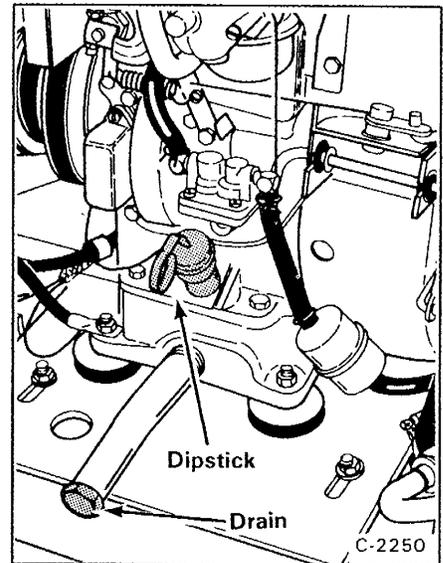
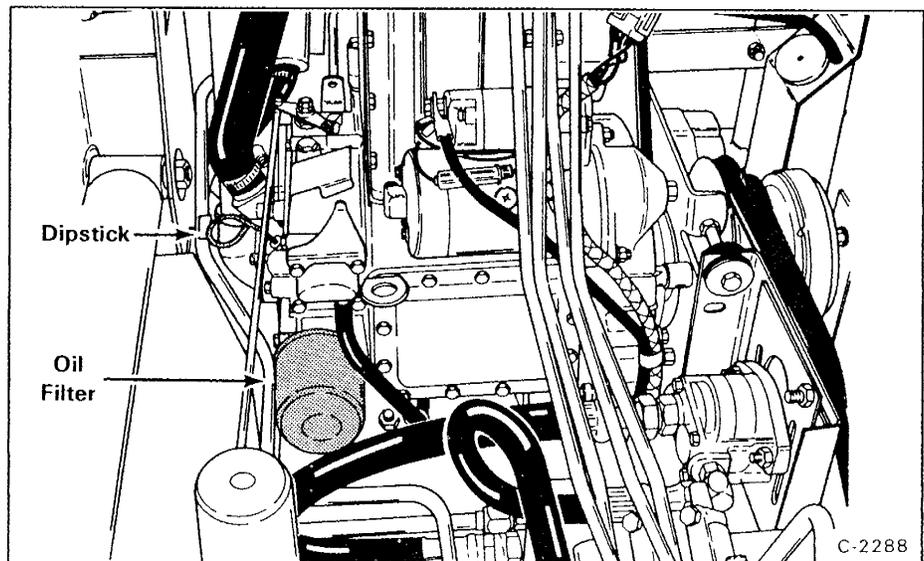
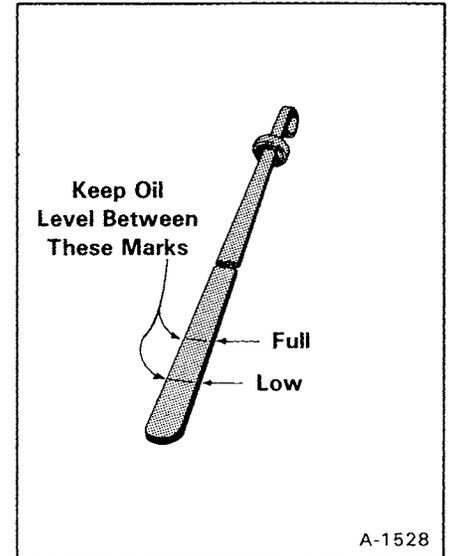

Fig. 1-7 Engine Dipstick Location (310)
Fig. 1-8 Engine Oil Filter Location (313)
Fig. 1-9 Engine Dipstick
Check the oil level every 4 hours for the first 50 hours of operation and then check the oil level daily. To check the oil, remove the dipstick (Fig. 1-7) and (Fig. 1-8). Clean the oil from the dipstick and put the dipstick back into the hole. Remove the dipstick again and look for the oil level. The oil level must be between the "FULL" and "LOW" marks on the dipstick (Fig. 1-9).
The 313 oil filter (Fig. 1-8) needs replacement each time the engine oil is replaced (every 50 hours of operation). The oil filter is located in the front of the engine. It is necessary to remove the front two operator enclosure fastening bolts and tilt it to reach the filter.
- (1) Put the loader on a level surface. Stop the engine.
- (2) Remove the drain plug and let all the oil out of the engine (Fig. 1-7). (On the 313, the oil drain is located under the alternator.)
- (3) Remove the oil filter (313).
- (4) Put oil on the gasket on the new oil filter. Install the oil filter and tighten by hand only (313).
- (5) Install drain plug.
- (6) Put 2 quarts (1,9 liter) of oil in the crankcase on the 310 and put 3.3 quarts (3,1 liter) of oil in the crankcase on the 313.
- (7) Start the engine and check for leaks.